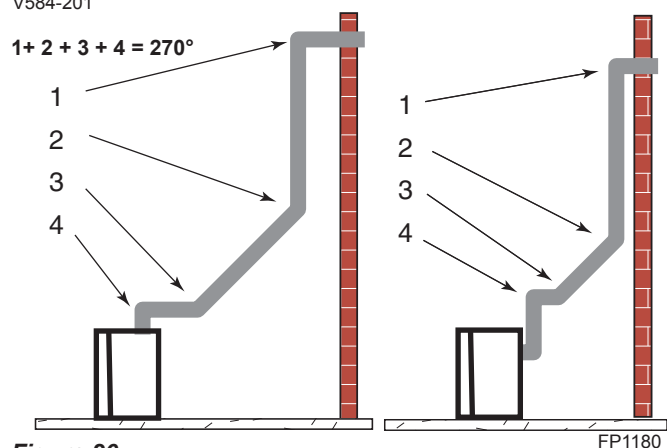

Figure 26 -
- The maximum number of 45° elbows permitted per installation is six (6). These elbows can be installed in either the vertical or horizontal run.
- The maximum number of elbow degrees in a system is 270°. *Figure 26*